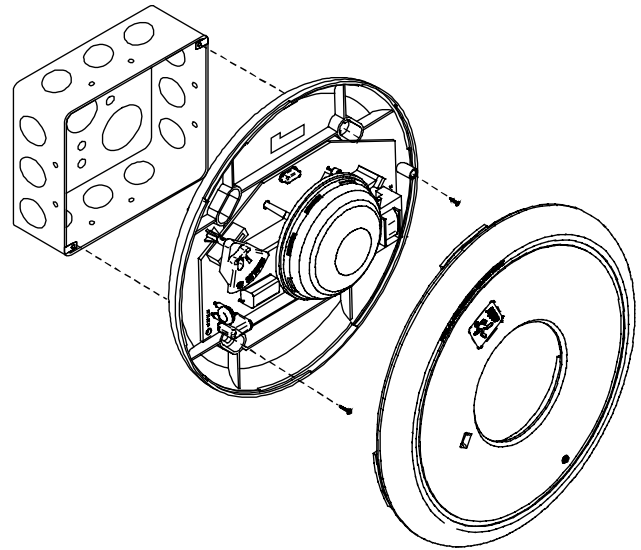

Figure 4: Mounting diagram
4. Mount the unit onto a compatible electrical box. See Figure 4.